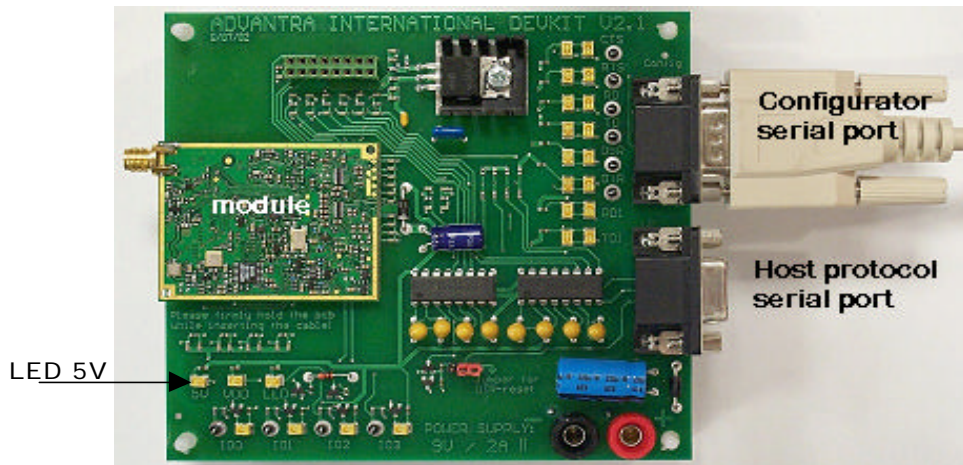
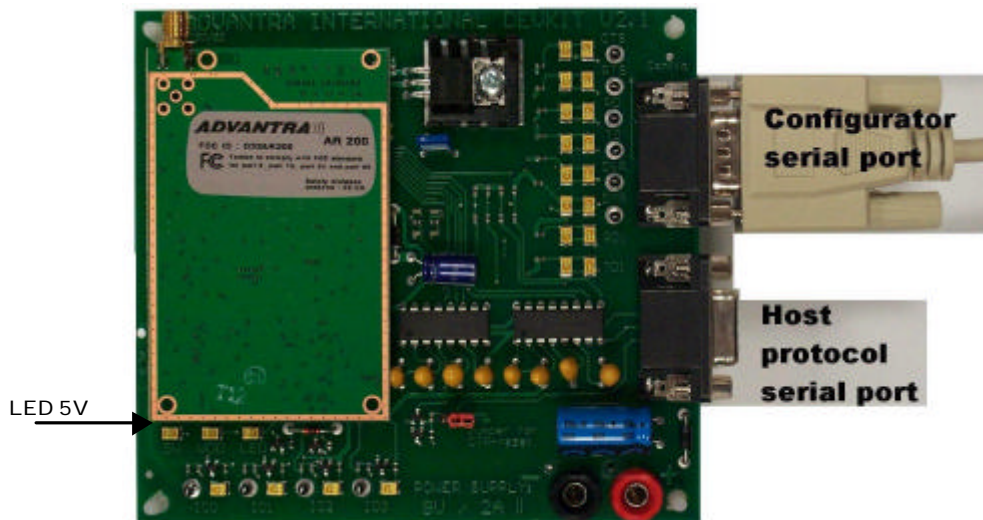

Figure 1 AR100 Equipment Connection Diagram with small module
Figure 2 AR200 Equipment Connection Diagram with large module
| Figure 1 AR100 Equipment Connection Diagram with small module | 8 |
| Figure 2 AR200 Equipment Connection Diagram with large module | 8 |
First identify the module – the AR100 (Karli, Karli Lite and Wiriki) module is shown in Figure 1, the larger, AR200 (Barran) module is shown in Figure 2.
Ensure that the module is oriented and the serial cable connected as shown in Figure 1.
2. *If the device module is unshielded (as in Figure 1) put the antenna at least 1 meter away from the device using an extension cable. If, however, the device is shielded, the antenna can be connected directly to the device.*